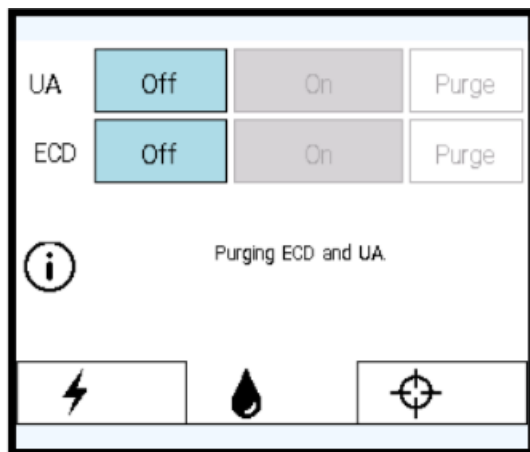
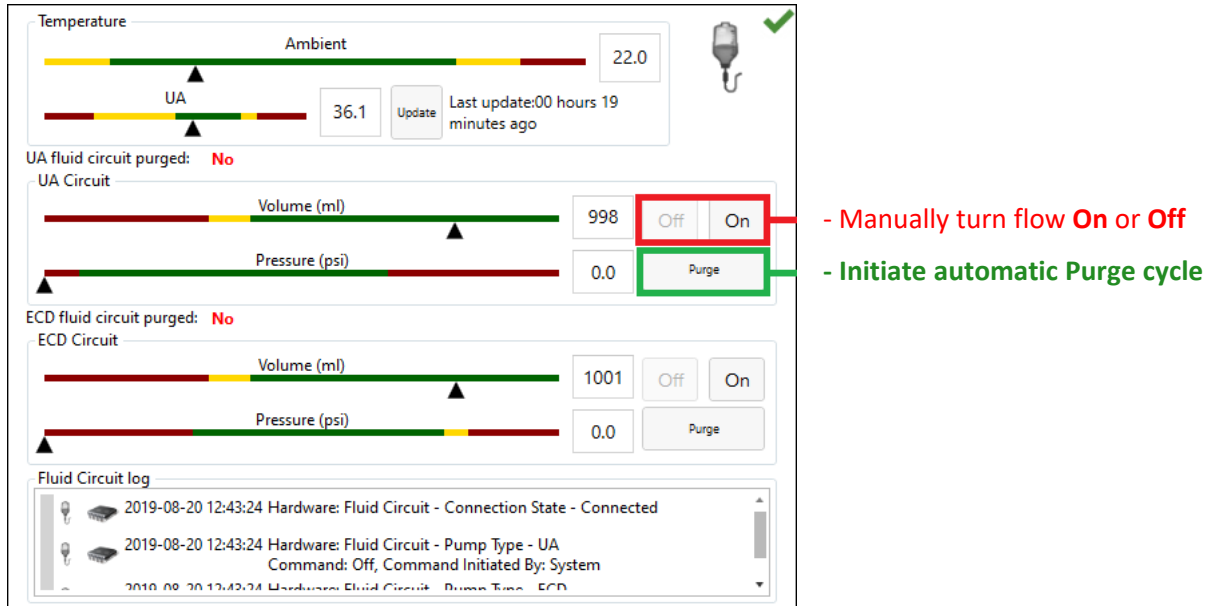

Figure 12: PSIB Display - Fluid Circuit tab
Figure 13: Fluid Circuit information box in TDC Setup workspace
5. On the PSIB display, choose the **Fluid Circuit** tab  (Figure 12) and **Purge** the UA and ECD fluid circuits. You can also do this from the TDC by pressing **PURGE** beside the fluid circuit (FC) quadrant (Figure 13).
- a. If the purging cycle ends before completing the steps in this process, return to the PSIB display (or TDC window) and manually turn the flow on by clicking **On**. The fluid pumps will remain on until you click **Off** (Figure 13).